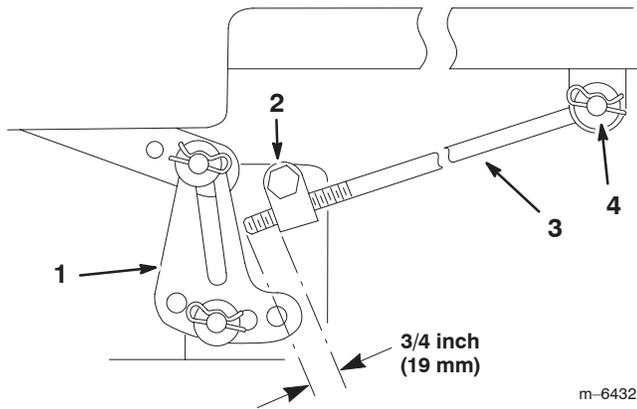

Figure 40
- 5. Measure the length of the rod extending out of the adjusting block on the sides of the chassis (Fig. 40).
- 6. If the rod length is **not** a 3/4 inch (19 mm), remove the hairpin cotter and washer from the end of the adjusting rod (Fig. 40) and turn the rod until the 3/4 inch (19 mm) dimension is obtained.